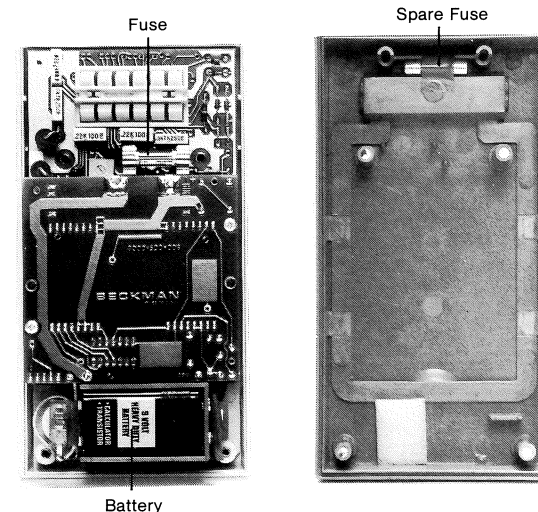

Figure 19. Multimeter with Back Cover Removed
2. The battery is located in the front part of the case as shown in Figure 19. Disconnect battery from instrument and replace with a standard 9-volt transistor battery.
2. The fuse is located in the upper half of the instrument (see Figure 19). Remove old fuse and replace with spare fuse attached to the inside of the back cover.